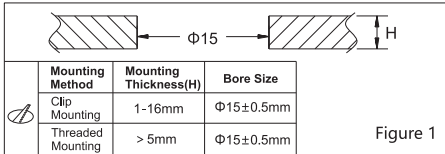

Figure 1
1. Mounting thickness & bore size (Figure 1)